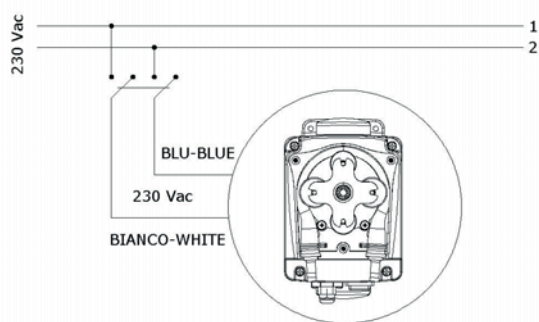

Fig. 1
- Carefully observe the regulations in force as regards electrical installation (figure 1). **When the supply cable does not have the plug, the equipment should be connected to the power supply by means of a single-pole switch having a minimum distance of 3 mm between the contacts. Before accessing any of the electrical parts, make sure that all the supply circuits are open.**
Wires colours could be different from the ones showed in fig. 1, it depends of the motor type.